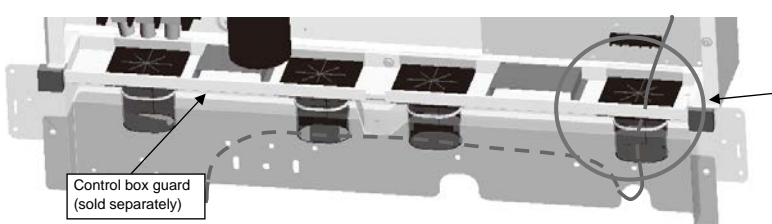

Figure 4
| ⑥ | Band (for control box guard (refer to Figure 4) and Pipe cover) | ○ | ○ | ○ | ○ | ○ | ○ | ○ | ○ | ○ | ○ | ○ | - | - | - | - |